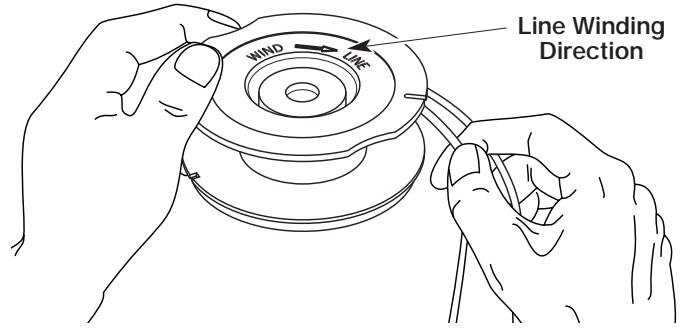

Fig. 15
8. Wind the lines in tight even layers onto the inner reel, in the direction indicated on the inner reel. Place your index finger between the two lines to stop the lines from overlapping, twisting or crossing each other (Fig. 15). Do not overlap, twist or cross the ends of the line. Proceed to step 12.